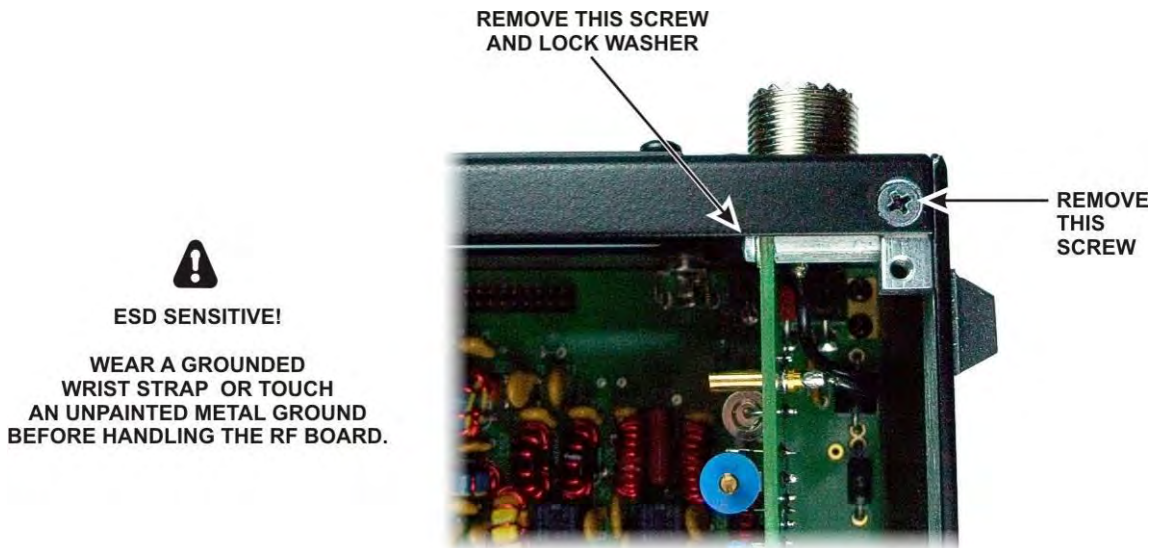
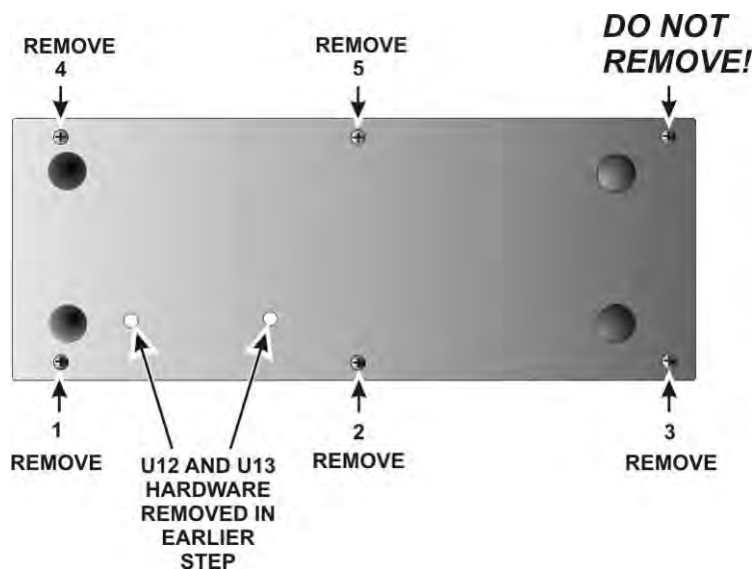

Figure 31. Removing Side Panel Hardware, Part 1.
Figure 32. Removing Side Panel Hardware, Part 2.
- Remove the screw holding the KANT3A (or, if installed, the optional KAT3A) board to the standoff and the screw holding the 2D fastener to the rear panel near the SO239 antenna connector shown in Figure 31. Do not lose the lock washer inside the K3S or K3. It is easier to keep the hardware from falling inside if you set the K3S or K3 on its side feet and remove the screw and lock washer holding the KANT3A or KAT3A board first, then set it on its bottom feet and remove the flat head screw from the 2D fastener.
- Remove the five screws shown in Figure 32 from the right side panel to release it. Screw 5, which holds the end of the stiffener bar, already will be out if you're performing the initial installation of the KRX3A. The side panel will lift off with the 2D fastener and standoff shown in Figure 31 attached.
□ Replace the right side panel on the K3, installing the 4-40 3/16" flat head screws shown in Figure 32 except for screw number 5. It will be replaced later with the stiffener bar.
□ Replace the 4-40 1/4" (6.4 mm) zinc pan head screw and washer that holds the KAT3A board to the standoff as shown in Figure 31.
- Replace the 4-40, 3/16" (4.8 mm) black flat head screw that secures the back panel to the 2D fastener as shown in Figure 31.